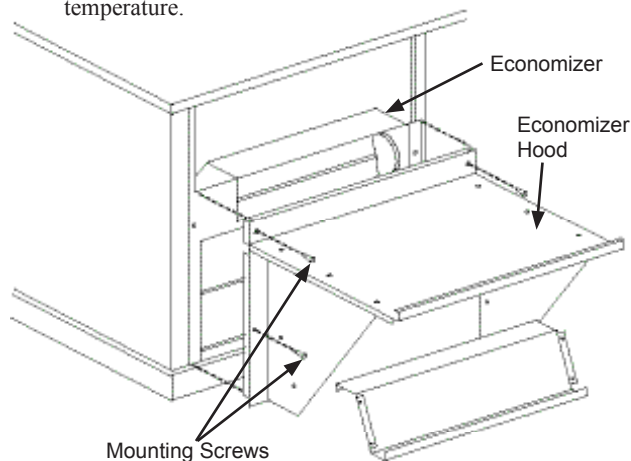

Fig. 10 - Economizer Hood Installation
- Install the economizer hood over the economizer. Use screws provided. (See Fig. 10.)